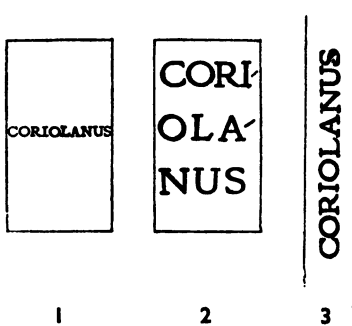

FIG. 95
As a general rule, lettering looks best if it comfortably fills the panel, but of course it cannot always be made to do this. The greatest difficulty will be found in making titles of books that consist of a single word, look well. Thus if you have "CORIOLANUS" to place on a back which is not more than $\frac{1}{8}$ -inch wide, if it is put across as one word, as at fig. 95 (1), it will be illegible from the smallness of the type, and will tell merely as a gold line at a little distance. If a reasonably large type is used, the word must be broken up somewhat, as at (2), which is perhaps better, but still not at all satisfactory. The word may be put straight along the back, as at fig. (3), but this hardly looks well on a book with raised